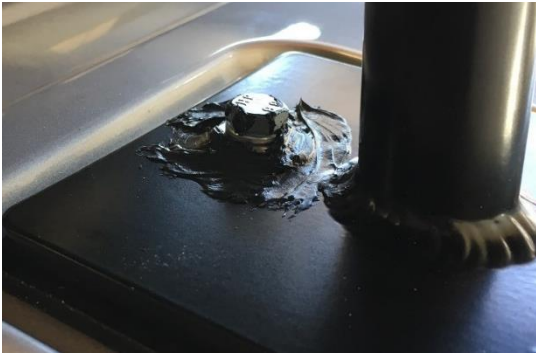

Figure 17: Silicone Sealant Applied to the Mounting Hardware
18. Apply a liberal amount of silicone sealant around the bolts at each mounting location as a final seal (Figure 17).